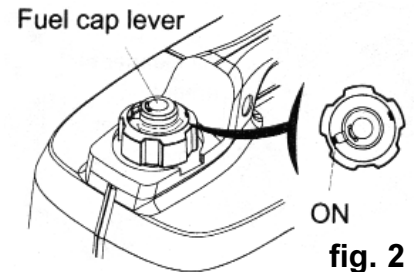

fig. 2
- 3.2.2 Turn the fuel cap lever fully clockwise to the ON position. Refer to fig. 2.